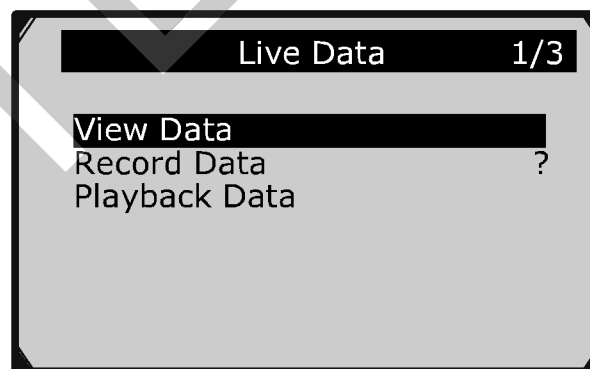

Figure 5.12
To record live data, use the **UP/DOWN** scroll button to select **Record Data** from **Live Data** menu and press the **OK** button. (Figure 5.12)
- 1) To playback recorded data, use the **UP/DOWN** scroll button to select **Playback Data** from **Live Data** menu and press the **OK** button. (Figure 5.12)